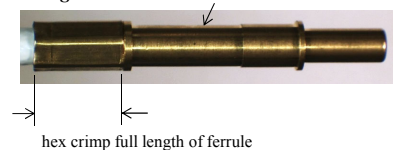

Figure 8
- 10) Remove the self-extraction sleeve from the connector prior to installing ATUM dual-wall heat shrink tubing provided. Shrink the tubing, at least partially onto the shoulder (Fig. 8), to effect a seal. Trim off excess heat shrink beyond the front side of shoulder as needed, and re-install the extraction sleeve as shown (Fig. 8).